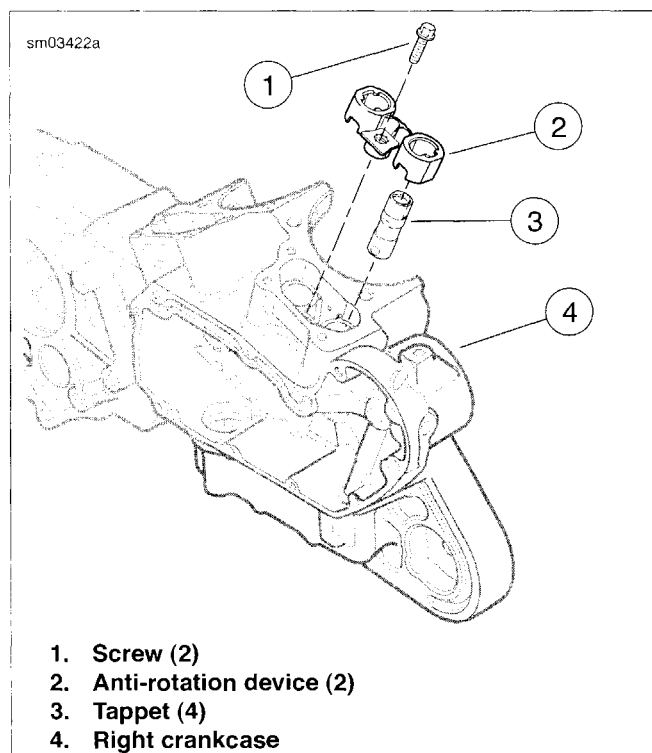

Figure 3-103. Tappet Components
1. See Figure 3-103. Rotate engine so that both tappets (3) from the cylinder being serviced will be installed on the base circle (lowest position) of the cam.
3. Insert both tappets (intake and exhaust) into anti-rotation device (2) with flats at upper end of each tappet positioned so they will be facing front and rear when assembly is installed in engine, and the tappet oil feed hole is facing toward the gear cover.
4. Install anti-rotation device with tappets into bore in right crankcase (4). Secure with screw (1). Tighten to 80-110 **in-lbs** (9.0-12.4 Nm).